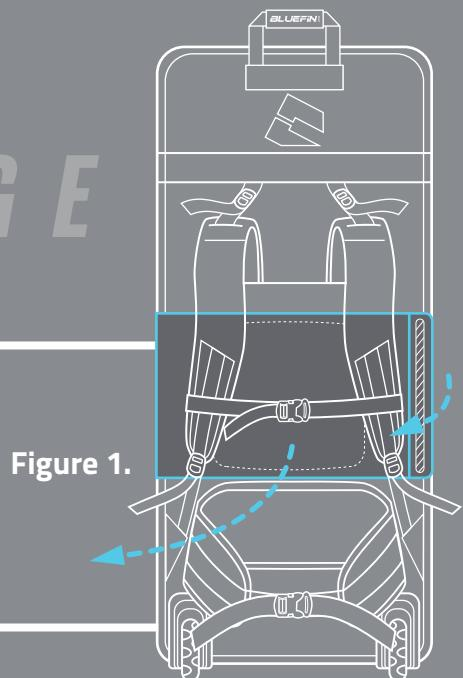
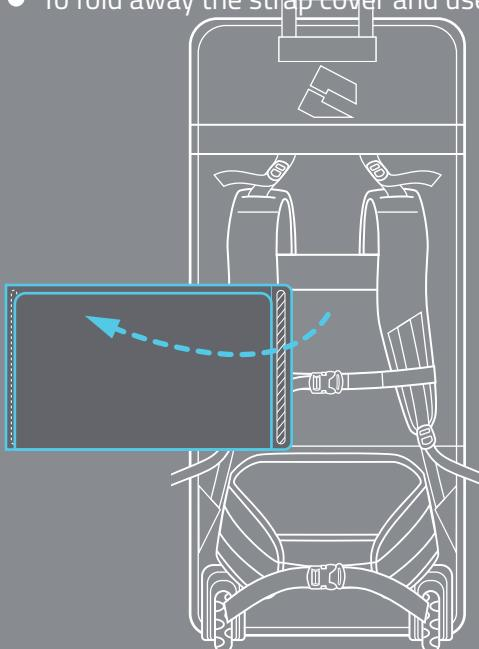

Figure 1.
Figure 2.
- For compact storage your board should be as flat as possible. Once flattened, please roll and fold the board from the nose down. **Figure 1**
- Lift the velcro tab and detach the central section of padding **Figure 1** to pull the strap cover out. **Figure 2**